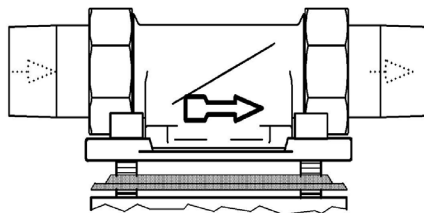

Figure 1. Built-in rotary flange
- Direction of flow (see Figure 1)